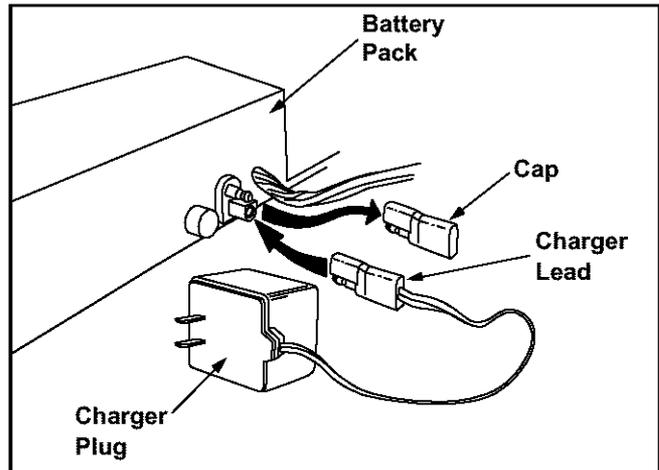

Figure 5
- Remove the protective cap from the end of the battery pack lead. See Figure 5.